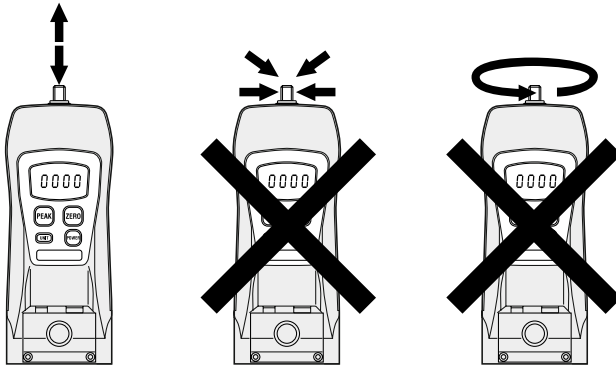

Figure 1
**NOTE:** It is very important that you measure forces (tension or compression) that are in line with the measuring shaft and not at any angle (see figure 1). Failure to observe this directive will damage the instrument. Also, after the gauge is positioned and ready to take a measurement (with the proper attachment in place) tare the unit by pressing ZERO. To clear the display for another measurement (in PEAK mode), press ZERO.